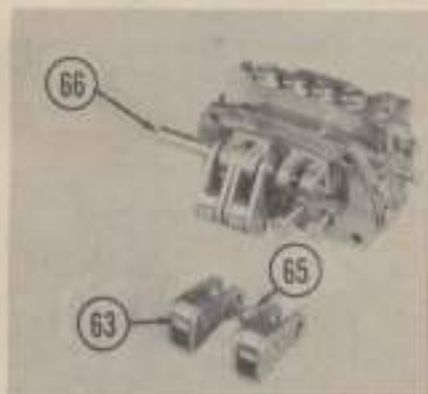

Fig. 152 — Washer (65) is placed between each set of cam followers (63) on pin (66).
**237. CAM FOLLOWERS AND PUMP PLUNGERS.** Refer to Fig. 152 and withdraw pin (66) to release the cam followers. A washer (65) is located on the pin between each set of two cam followers. Renew the complete cam follower if rollers are loose or worn or if follower arm is bent.